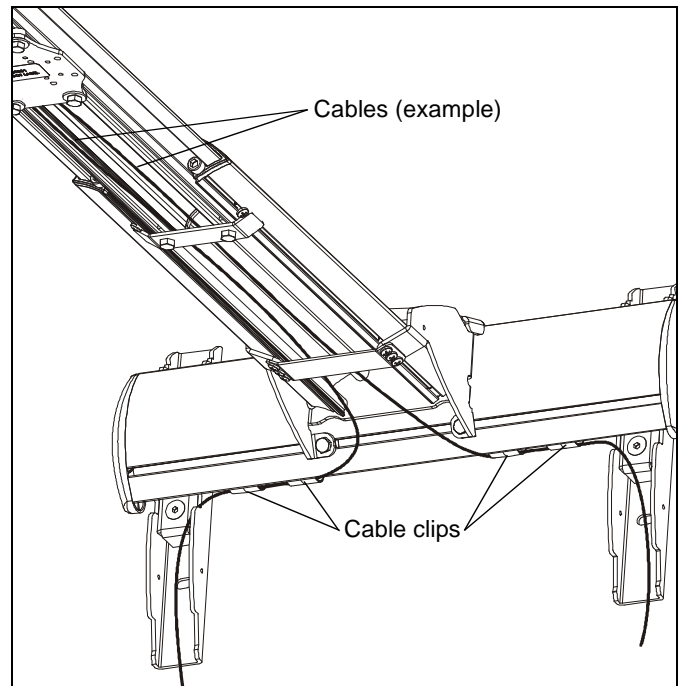

Figure 31
9. Route cables through cover mount, projector arm tunnel and into projector. (See Figure 31)